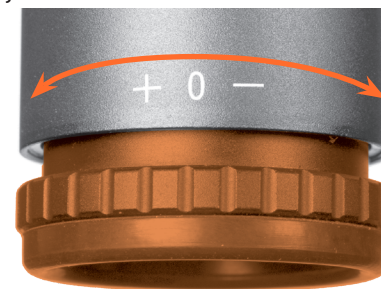

Fig. 24
2. If the reticle and the object are not sharply defined, look through the scope and turn the eye piece at the rear of the scope (either direction) to adjust the focus. Continue to adjust the until the reticle is clear and sharp (Fig. 24).